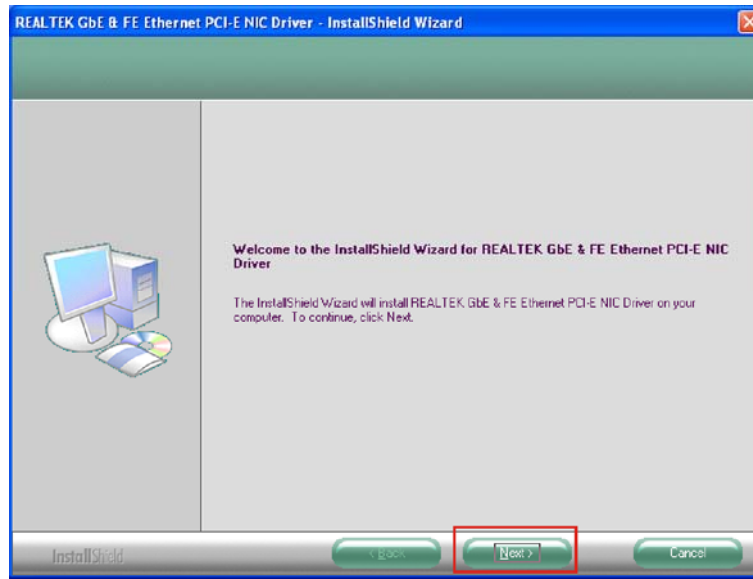

Figure 7-13: LAN Driver Welcome Screen
Step 34: The **Welcome** screen in Figure 7-13 appears.